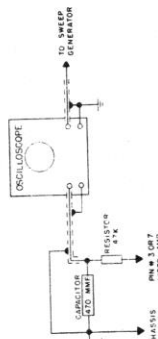

FIG. 2 - OSCILLOSCOPE CONNECTIONS
2. Connect the vertical input of the oscilloscope to the video test terminal (point "P" on Fig. 6) through the decoupling network shown in Fig. 2. The oscilloscope
Connect the oscilloscope to the video test terminal, point "B" on Fig. 6, through the decoupling network shown in Fig. 2.